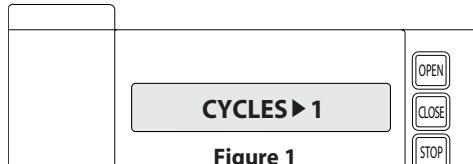

Figure 1
- 2) Press SCROLL  key until display reads "CYCLES>1,2,3 etc. where the number is the number of open/close cycles the operator has performed. **Figure 1**.